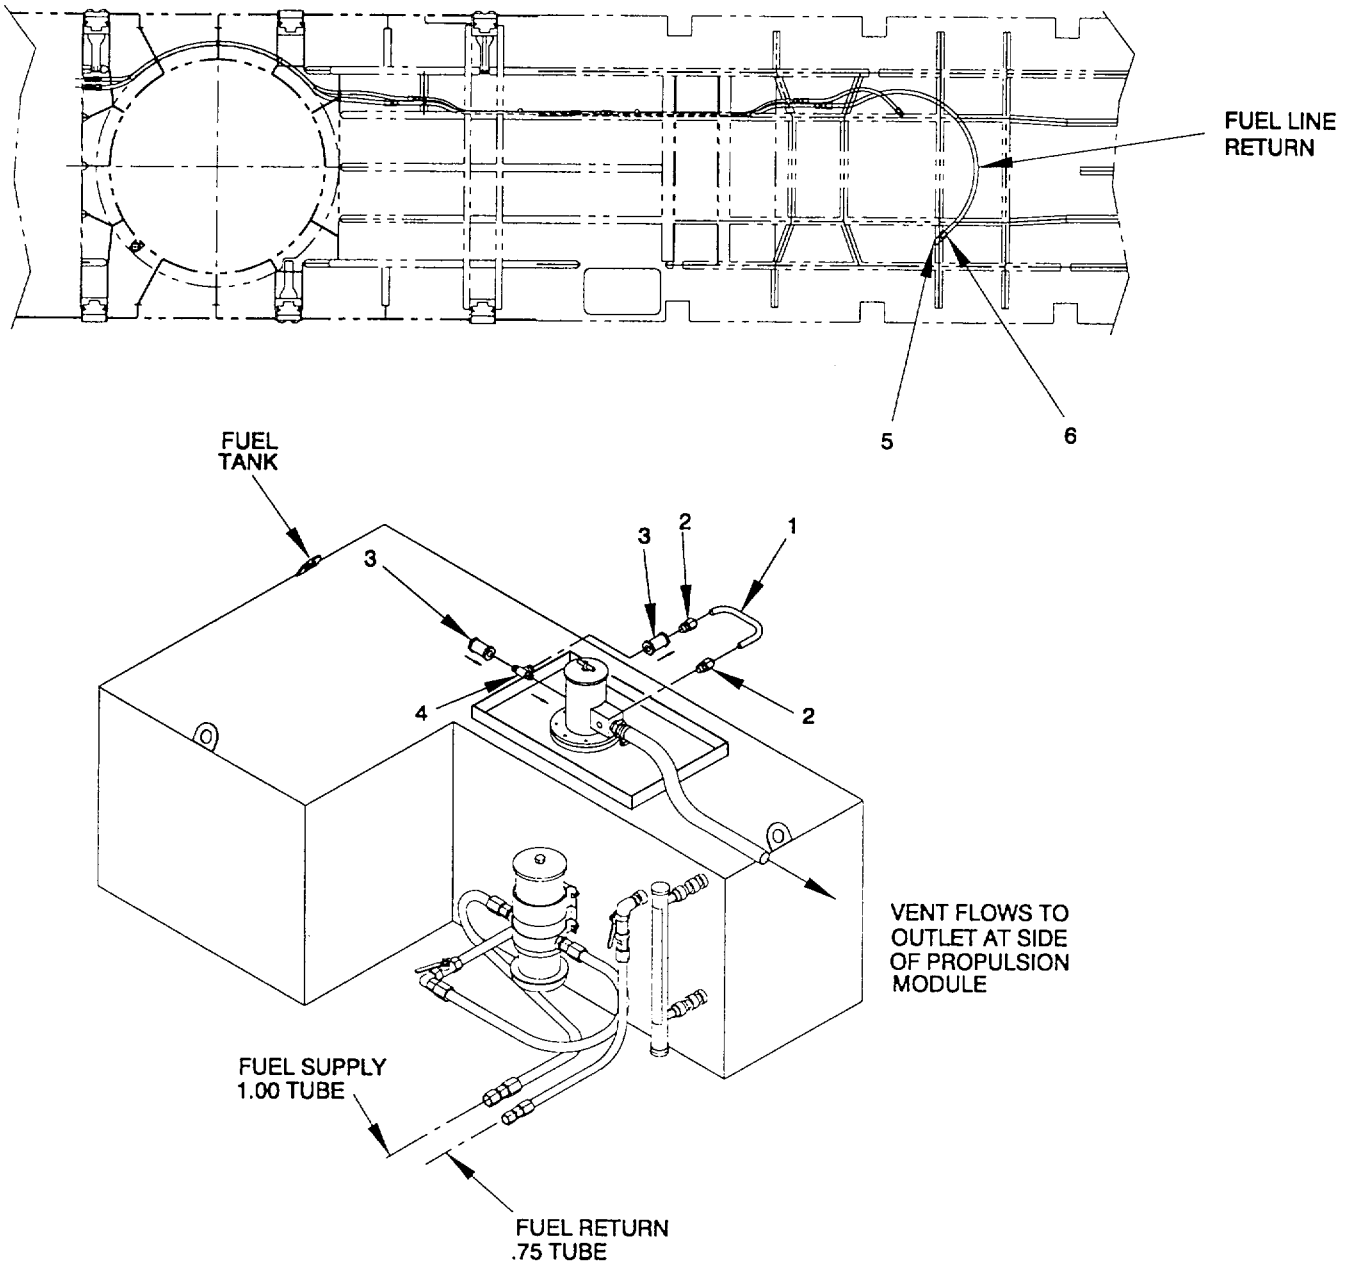

Figure 2-42. Check Valve, Fuel System, Remove/Install
a. Remove. (figure 2-42)
- (1) Ensure that all equipment is deenergized and tagged OUT OF SERVICE, and that fuel tank and fuel lines are drained completely of fuel.
- (2) Remove tube (1) from male connectors (2).
- (3) Remove male connector (2) from check valve (3).
- (4) Remove two check valves (3) from male pipe tee (4).
- (5) Remove check valve (5) from male connector (6).
b. Install. (figure 2-42)
- (1) Apply sealant to pipe threads on male connectors (2, 6) and male pipe tee (4).
- (2) Install check valve (5) on male connector (6).
- (3) Install two new check valves (3) on male pipe tee (4).